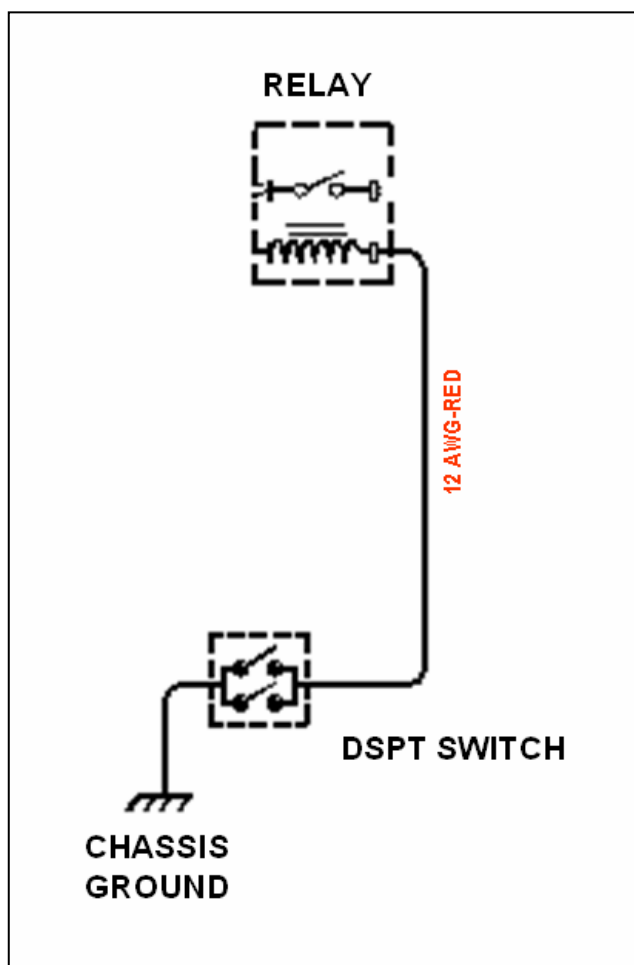

Figure 9: Carling Switch Installation
Step 2 Route the black wire (#12 AWG) from ground connection on the Delay Timer to the vehicle chassis (see Figure 9).